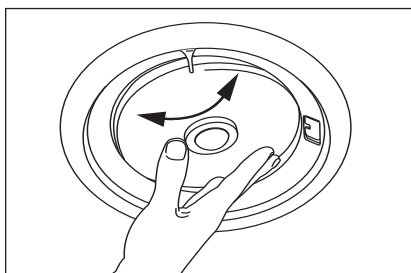

Figure 20 Directing the woofer.
8. Direct the Woofer. The woofer is directed by gently pushing on the outer edge of the grille face. (See Figure 20). It will move 15° in any direction. For critical listening, point the woofer to the user's favorite listening position minimizing